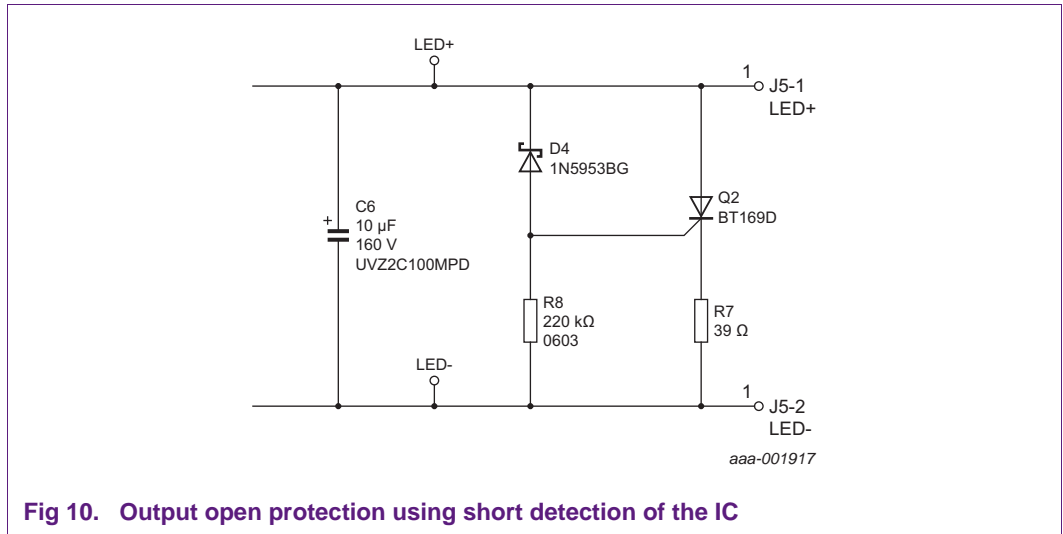

Fig 10. Output open protection using short detection of the IC
1. Using the ICs output short detection. When there is overvoltage, the output can be shorted below a level where valley is not detected anymore. As a result, the IC enters latched protection after a certain time ( $t_{det(sc)}$ ). Figure 10, shows a possible implementation.